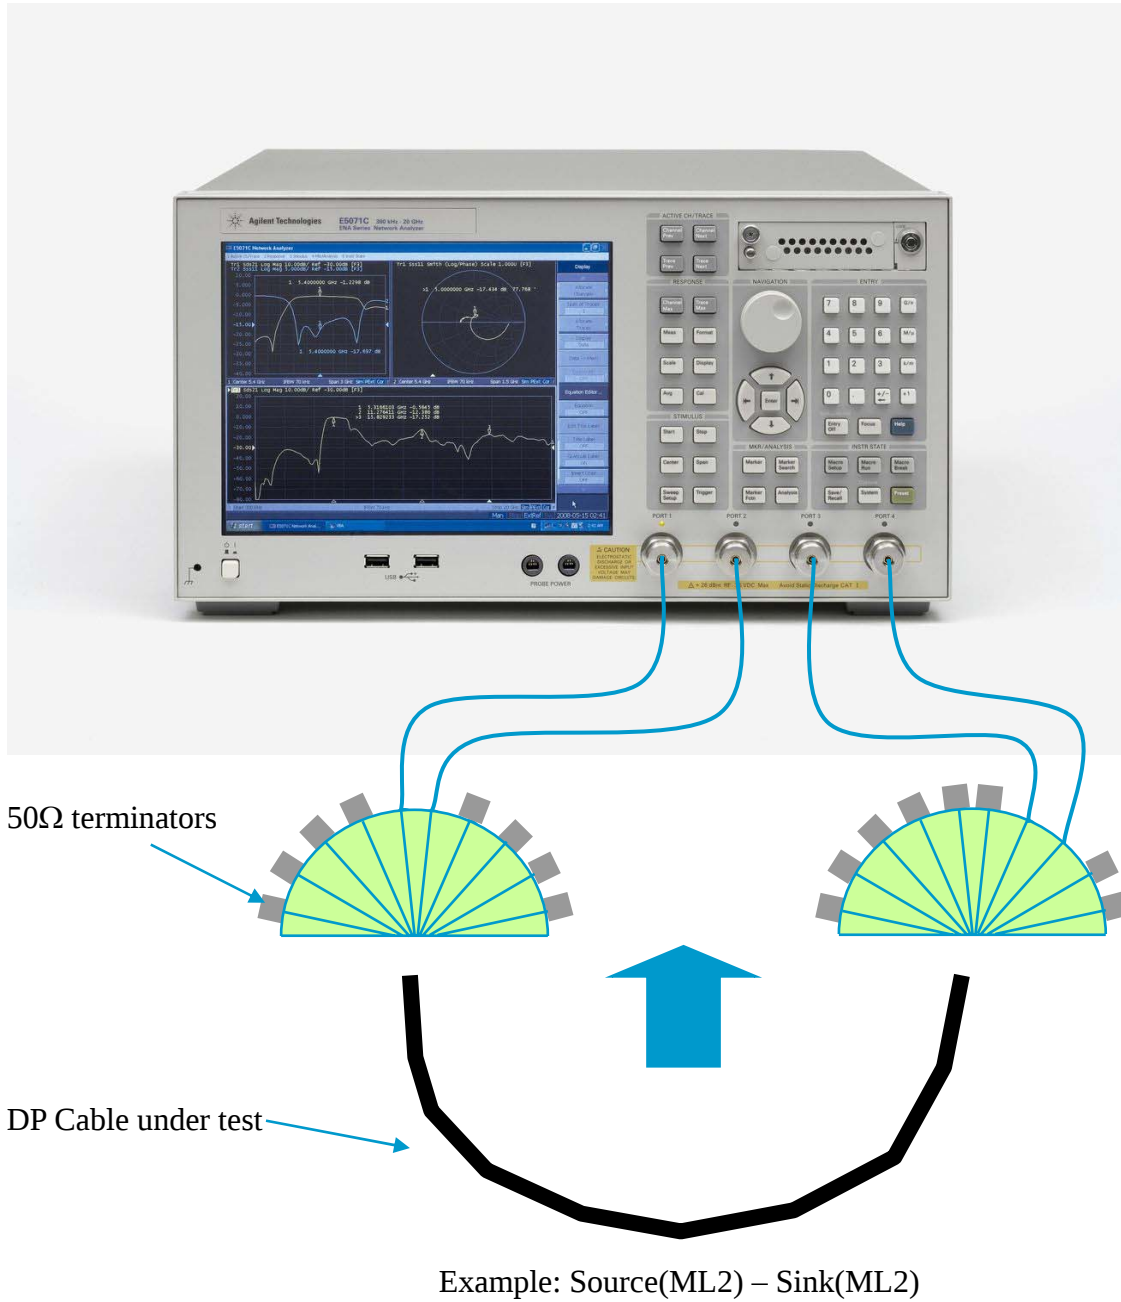

Figure 5.2.1 Connection Example for Insertion Loss measurement
1. Connect the test fixture to the test port cables according to the **Figure 5.2.1**. Unused terminals should be terminated.